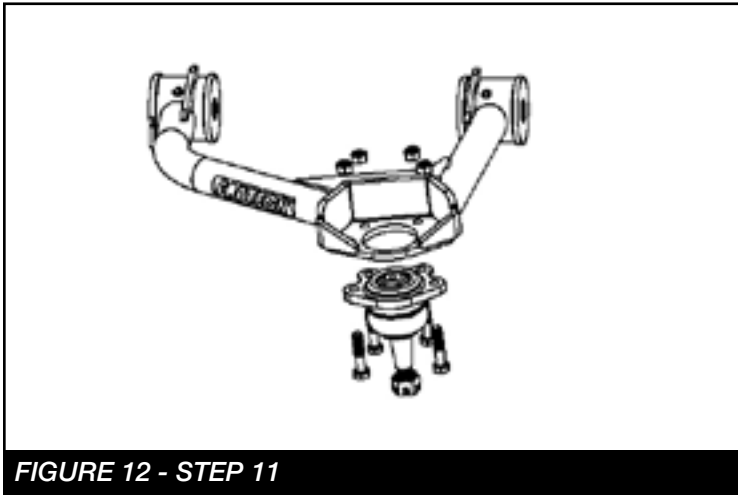

FIGURE 12 - STEP 11
11. Install FT20619 (Ball joint) onto the new upper control arm using the supplied 5/16"-18 x 1" bolts, washers and nuts from the hardware kit. Lube ball joint through zerk fittings. Torque to 29 ft-lbs. **SEE FIGURE 12**